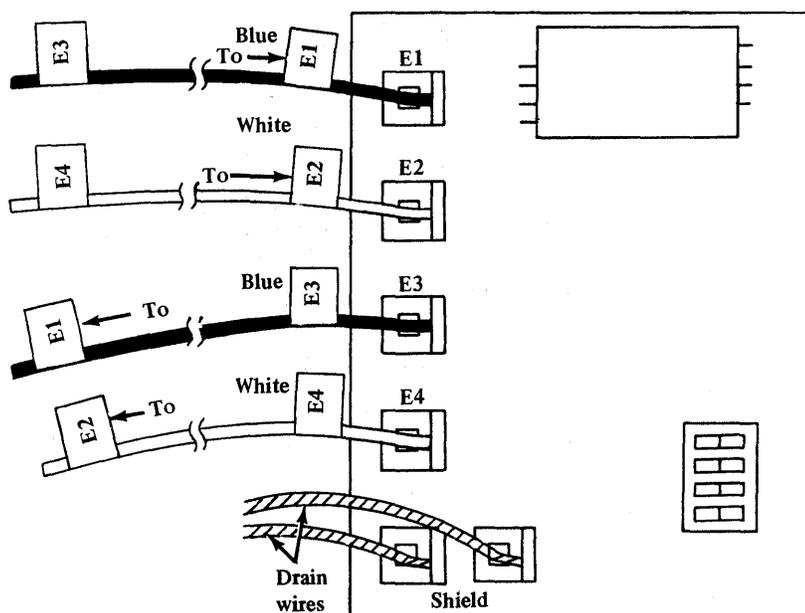

Figure 3-11. Color coding to tab pins
- ( ) The even-numbered tab terminals, E2 and E4, on each station connector are always connected to the white wire (see Figure 3-11).
- ( ) The odd-numbered tab terminals, E1 and E3, on each station connector are always connected to the blue wire (see Figure 3-11).
- ( ) Tab terminals E1, E2, E3, E4, and shield are push-on-type tab terminals used to connect the loop cable to the station connector. The terminal numbers are shown on the circuit board of the station connector (see Figure 3-11).